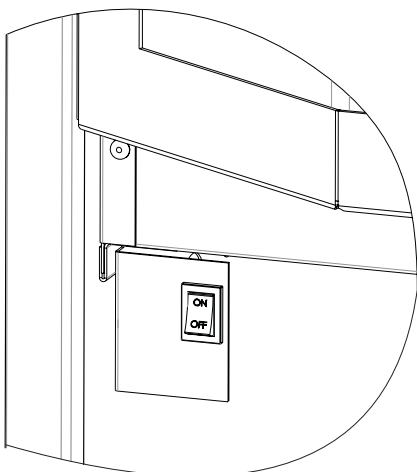

Figure 55
- B. Turn on the main electrical power to the heater and turn the main burner switch to the ON position. See Figure 55. Verify power is on by checking if there is power to the circuit board. If the unit has power, the power light will be illuminated.